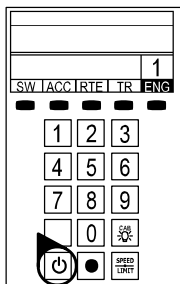

Figure 4. LEGACY start-up
6. Press the Start Up key on your LEGACY CAB-2 Remote, shown in Figure 4. Then, throttle up and move 'em out! Your engine sound will start up, and the locomotive-specific touch screen buttons will populate the remote. For more information on operating your locomotive with the LEGACY system, please refer to the LEGACY section of this manual. Additional information is also found in the LEGACY System Manual, available online at www.lionel.com.